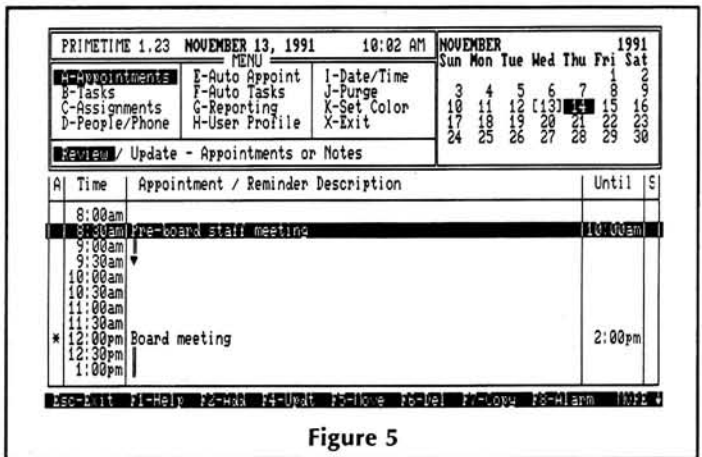

Figure 5
4. Highlight 8:30, then press F5 again. The appointment moves to that time and the until column automatically adjusts (Figure 5).